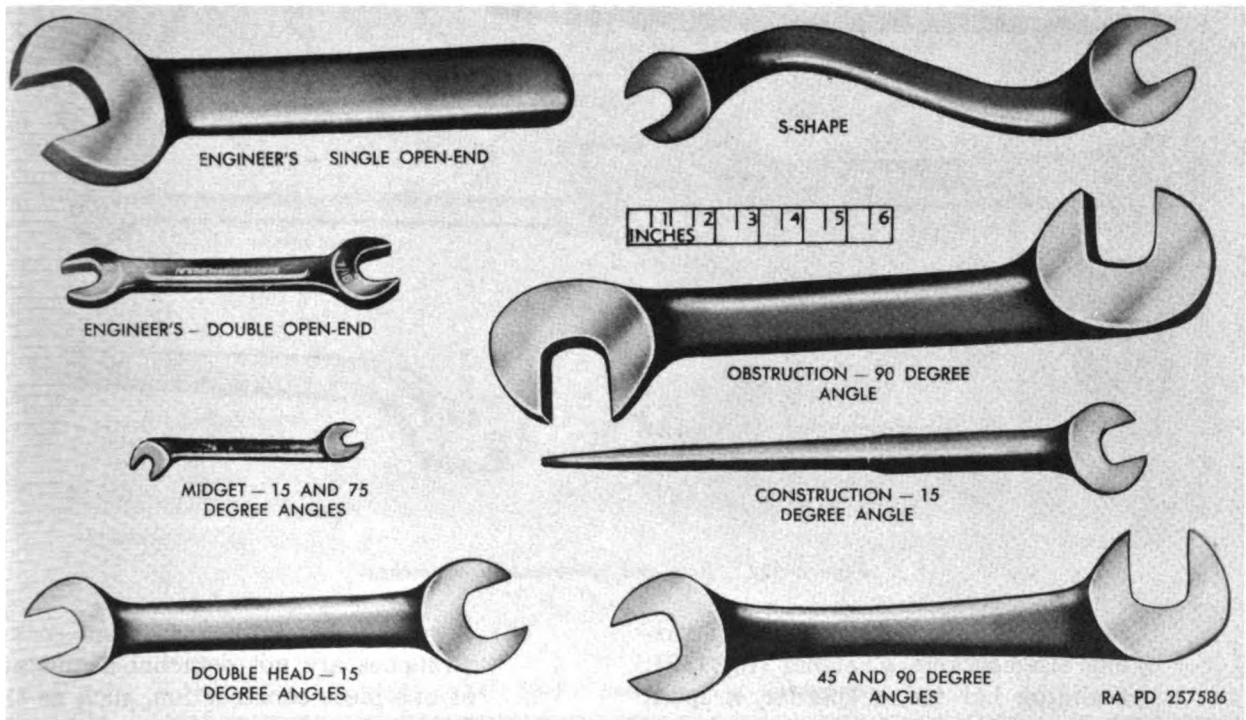

Figure 116. Open-end wrenches.
100. Purpose of Wrenches (figs. 116 through 124)
- (1) *Open-end wrenches.* Various open-end wrenches are shown in figure 116. They are usually double-ended wrenches, although some have a single open end. These wrenches are forged from chrome vanadium steel and heat treated. The size of the opening be-